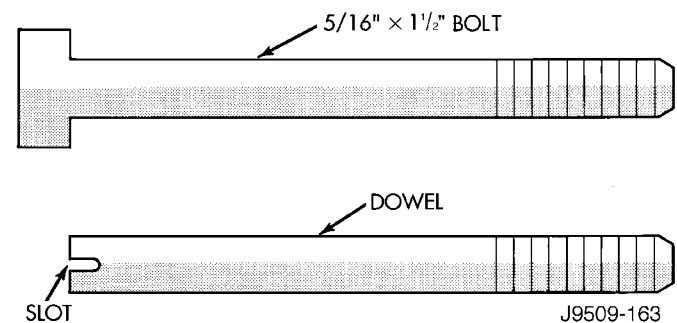

Fig. 37 Fabrication of Alignment Dowels
(1) Fabricate 4 alignment dowels from 5/16 x 1 1/2 inch bolts. Cut the head off the bolts and cut a slot into the top of the dowel. This will allow easier installation and removal with a screwdriver (Fig. 37).